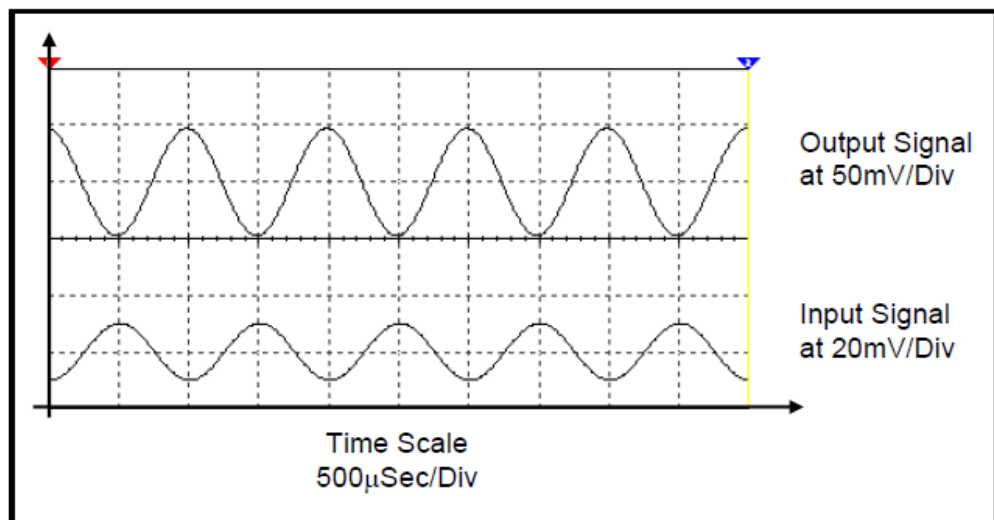

Fig.10 Input and output signals of CS amplifier
- Adjust the VOLT/DIV for Ch.A and Ch.B, hence adjust the TIME/DIV of the oscilloscope; Fig.10.